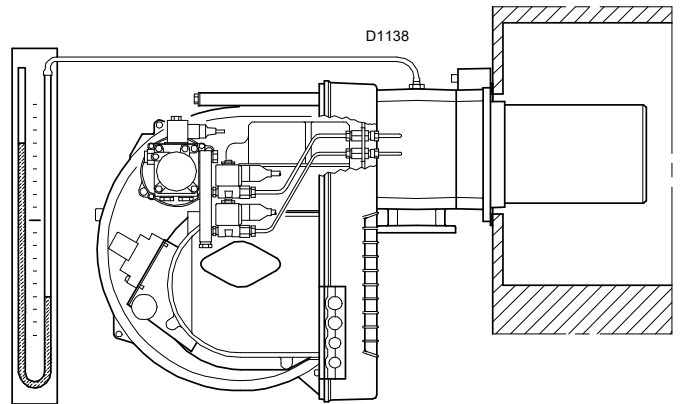

Fig. 32
- Fit a U-type pressure gauge (Fig. 32) to the gas pressure test point on the pipe coupling.
The arrival of gas to the sleeve is indicated by the U-type pressure gauge (Fig. 32).